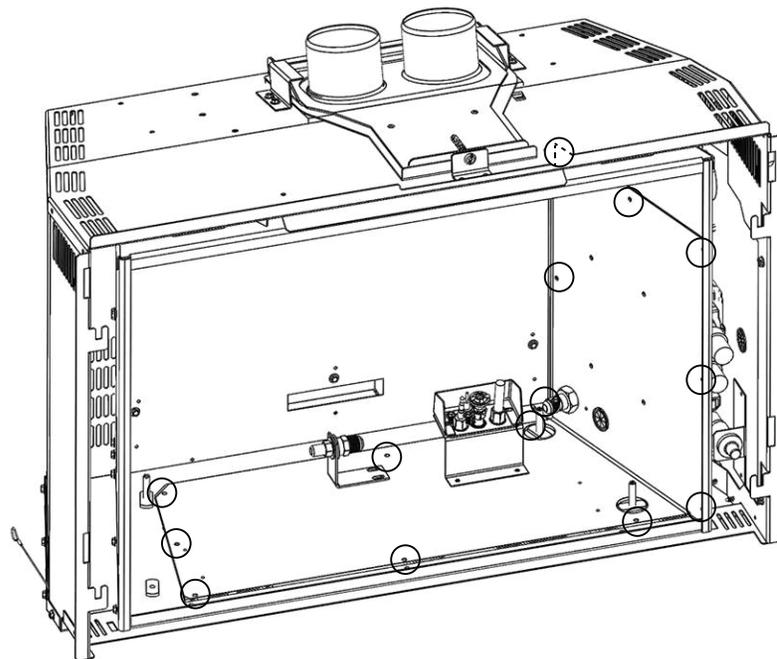

Fig. 7-3
- D. Remove the 14 screws holding the valve train in place (**Fig. 7-3**).